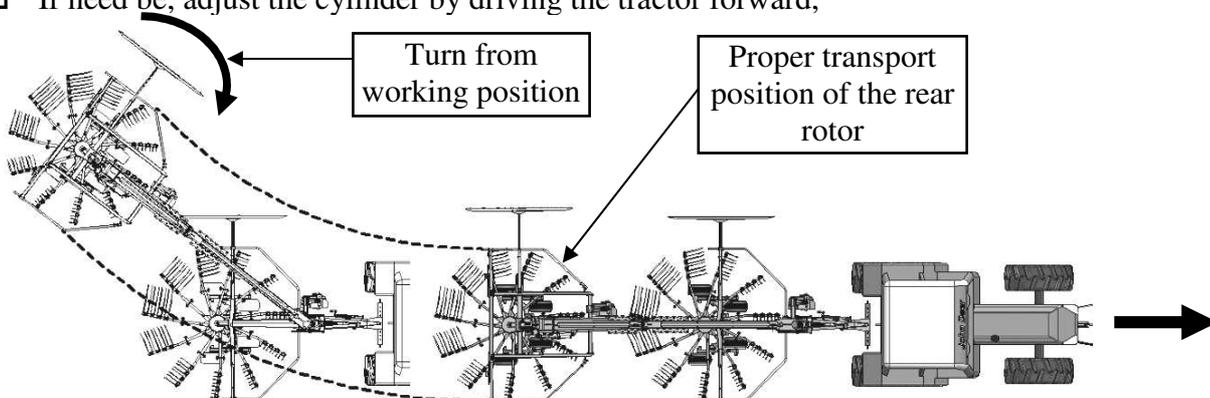

Fig. 11. Setting the proper transport position of the rear rotor
- ❑ After having been switched set the cylinder drive of the tractor until the rear rotor is aligned with the front one (**Fig. 11**),